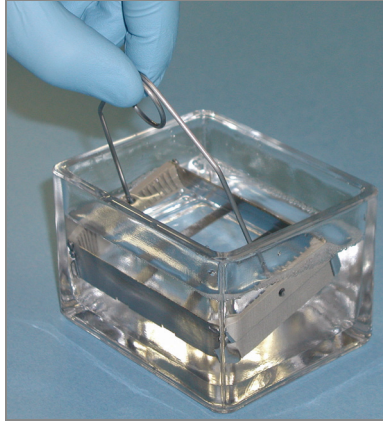

Figure 51 Wash Rack in Wash Dish Containing PB1
1. Attach the wire handle to the rack and submerge the wash rack in the first wash dish containing 200 ml PB1 (Figure 51).